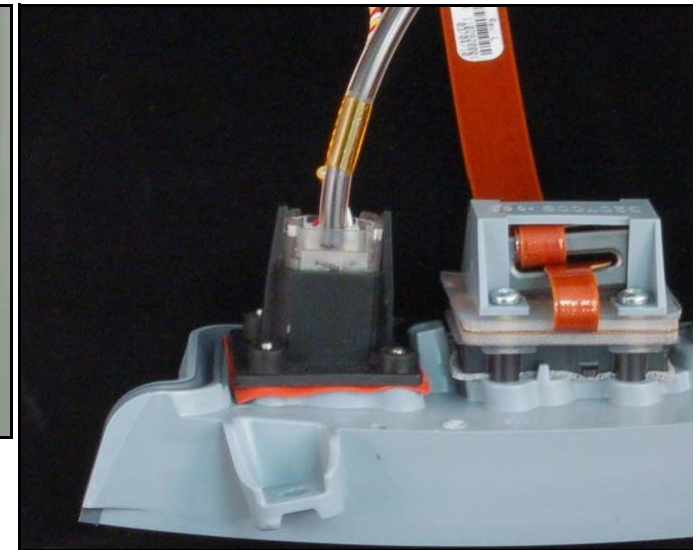

Figure 8.102—SpO2 connector cable
3. Insert the SpO2 connector cable into the parameter bezel and secure with the four new screws (REF 21300-007557); torque to 2 in-lb using a Torx T-10 bit (see Figure 8.102 on p. 329 for connector orientation).